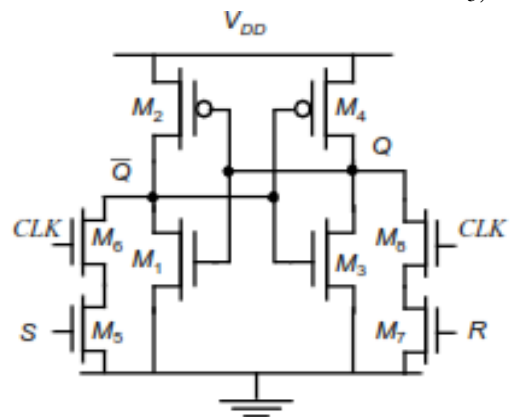

Figure 3.5 CMOS clocked SR flip-flop
- Clocked SR flip-flop (a level-sensitive positive latch) is shown in Figure 3.5.